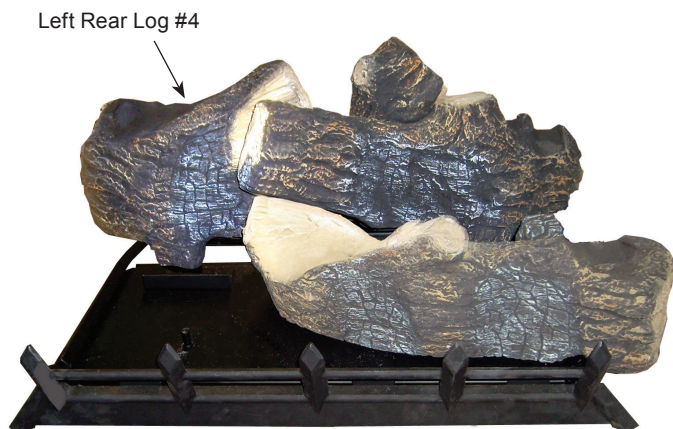

Figure 30. Place Left Rear Log #4
4. Place left rear log (#4) on pin located on rear support bracket on left side. Figure 30.